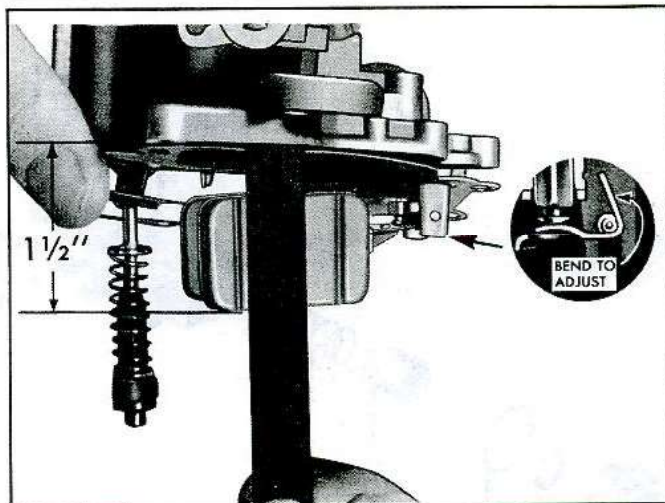

Fig. 23—Measuring Float Drop
- Hold bowl cover in an upright position and measure the distance from the gasket to the bottom of the float (fig. 23). This dimension should be 1-1/2". Bend the tang at the end of the float hinge arm to obtain the correct drop, recheck setting after this adjustment.